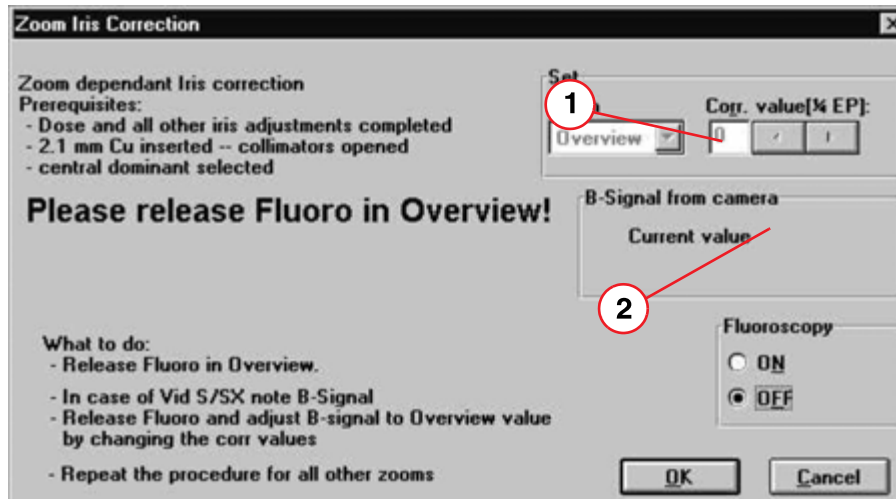

Fig. 25:
- The following window appears (Fig. 25 / p. 39).
A "B-Signal from camera" value of $110 \pm 10\%$ has to be adjusted (2/ Fig. 25 / p. 39) by changing the "Corr. value [1/4 EP]" value (1/ Fig. 25 / p. 39).